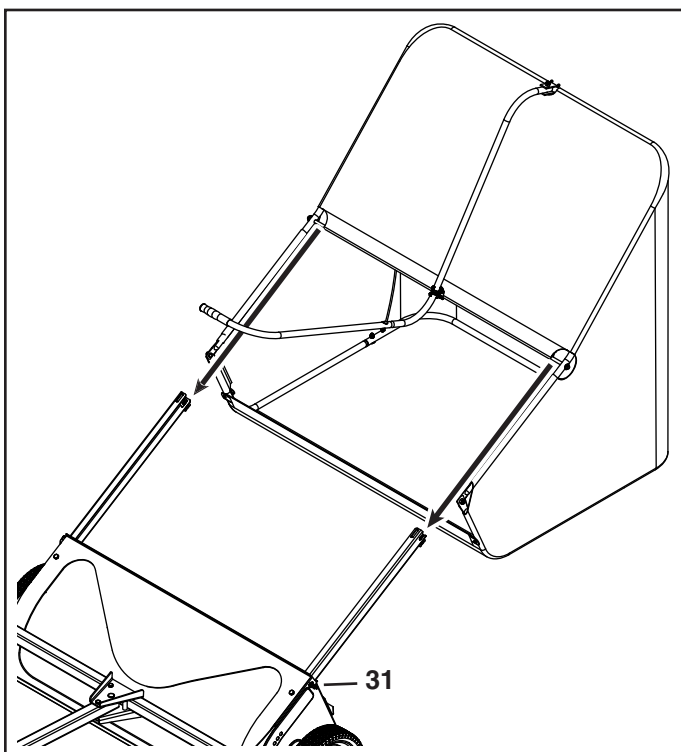

FIGURE 18
33. To attach the hopper bag to the sweeper, slide the pivot rod in the bag into the ends of the bag arm channels, locking it in the pivot rod retainers. The channels go inside the bag. See figure 18.